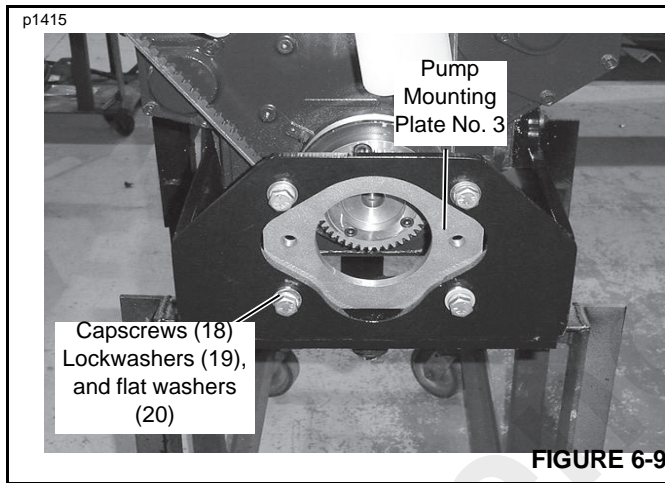

FIGURE 6-9
3. Position pump bracket (8, Figure 6-4) into position as shown in Figure 6-9. Apply Loctite® 243 to the threads of six capscrews (7, Figure 6-4), then install the capscrews along with six flat washers (12) into both sides of the bracket. Do not tighten the bolts.
4. Coat the collar of shoulder bolts (14) with an anti-seize compound. Apply Loctite® 243 to the threads of the shoulder bolts and install them through the bracket into
6. If pump plate (3, Figure 6-4) was removed or is being replaced, install it as shown in Figure 6-9. Use bolts (18), lockwashers (19) and flat washers (20).